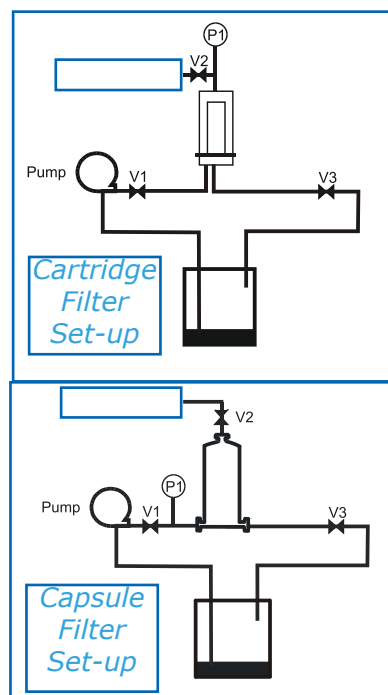

Figure 2. Typical set-up for wetting with a peristaltic pump.
1. Set up the filtration system to meet the maximum pressure rating for the tubing as shown in Figure 2 and close all valves (V1, V2 and V3).
1. Set up installation as shown in Figure 2 and close all valves (V1, V2 and V3).